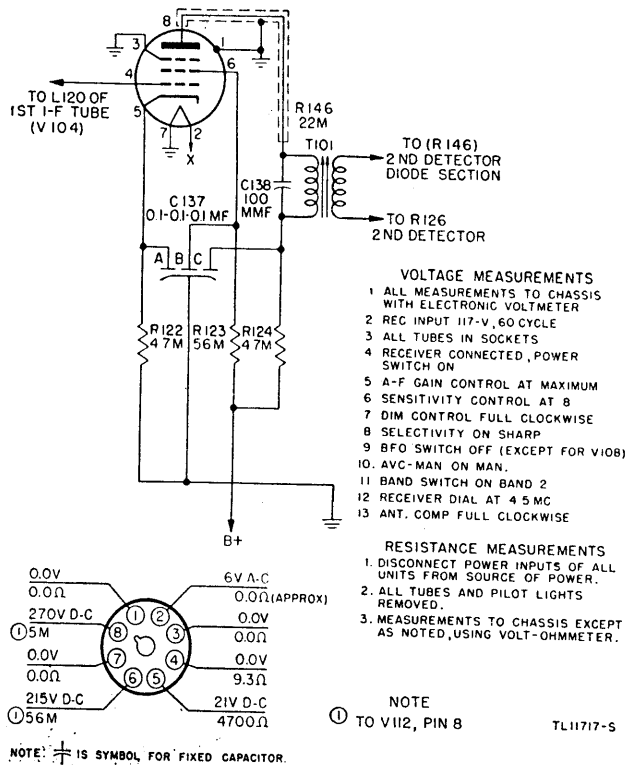

Figure 18. Radio Receiver BC-1147-(*), second i-f amplifier stage.
39. Second I-F Amplifier Stage (fig. 18)